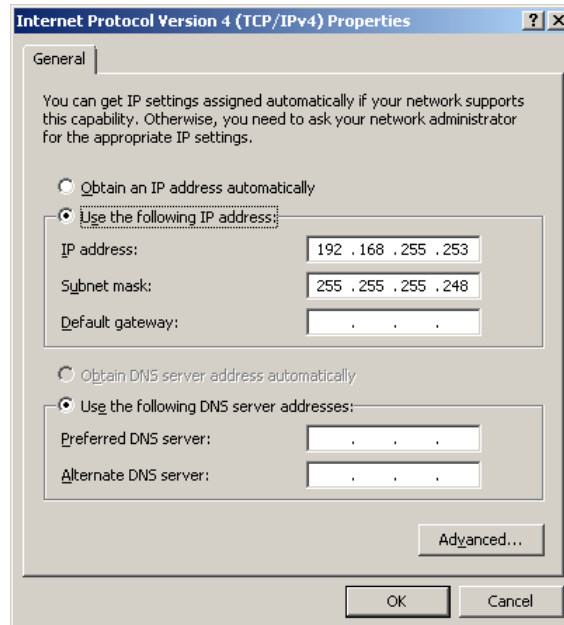

Figure 1.5-3 Internet Protocol Version 4 (TCP/IPv4) Properties dialog box
The “Internet Protocol Version 4 (TCP/IPv4) Properties” dialog box (Figure 1.5-3) will appear.
- (5) Set the IP address and subnet mask just as shown on the “Internet Protocol Version 4 (TCP/IPv4) Properties” dialog box (Figure 1.5-3).